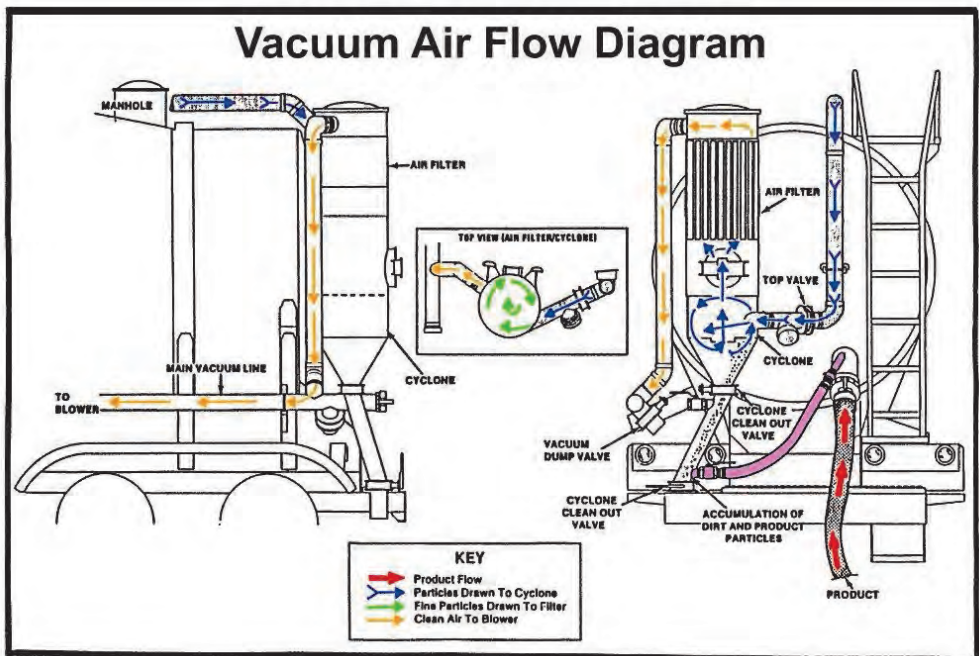

Figure 4. Vacuum Operation
The Heil Tube Dust Collection System is displayed in Figure 4. Contaminated air is brought in through the bottom of the filter assembly from the top of the tank. The air cyclones through porous plastic tubes with millions of tiny holes which allows clean air to escape through the top of the filter tube assembly. As the clean air is directed back to the blower, the bottom of the filter tube assembly fills with residual particles. They can be emptied through an eductor system that will funnel them into a collection line by means of gravity and a two valve system that allows gravity cleaning without shutting down the blower. The systems will let the operator know when it needs cleaning by raising the back pressure on the blower. When this happens, the tubes can be cleaned with high pressure. There is no need to replace the tubes unless they are damaged in some way.
4. Identify all valves and their location from Figure 4.